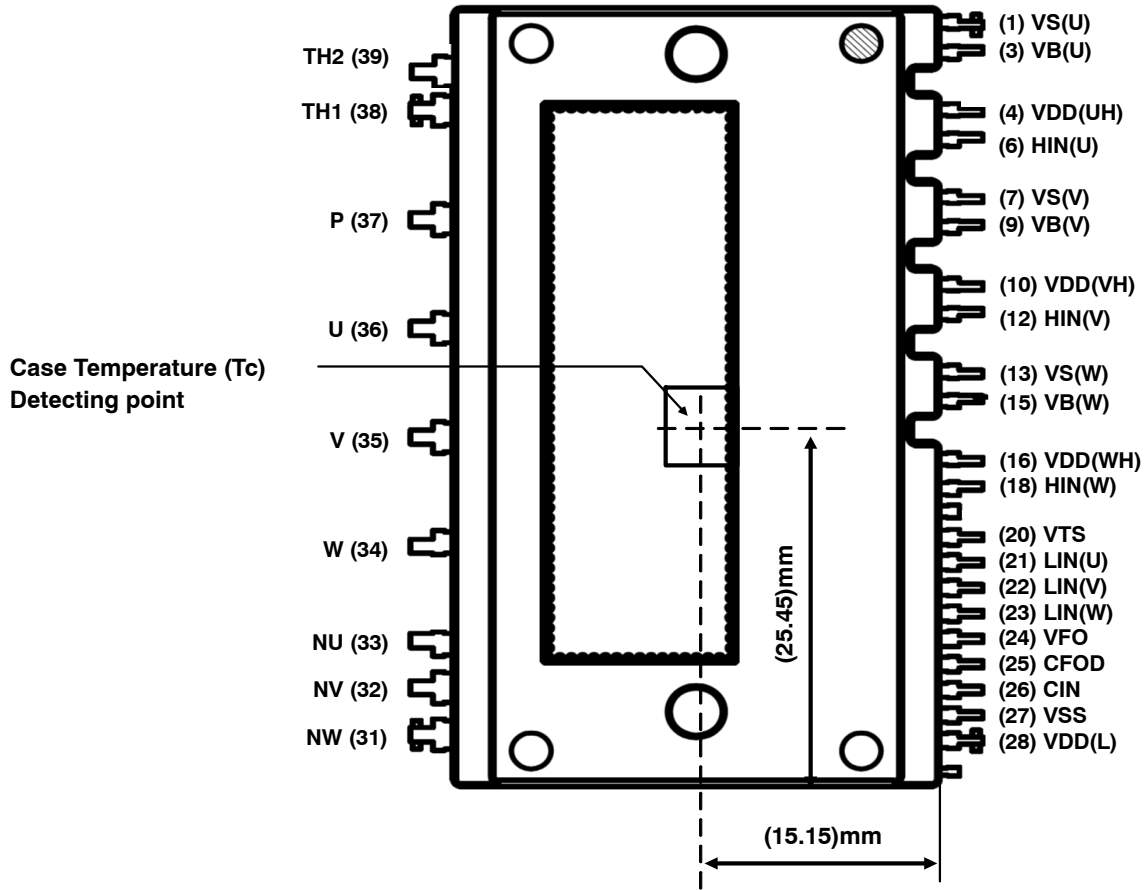

Figure 2. Pin Configuration – Top View
- For the measurement point of case temperature (Tc), please refer to Figure 2.